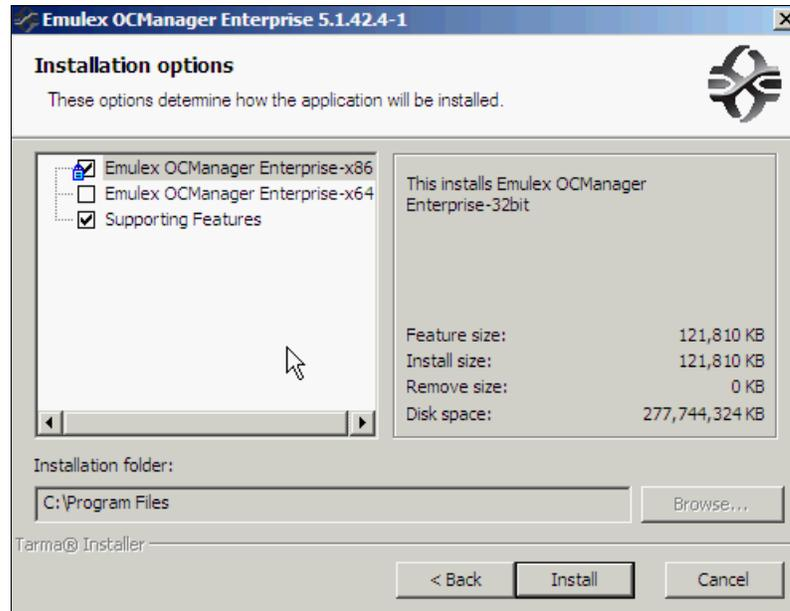

Figure 10-126 Installation options window
3. In the Installation options window (Figure 10-126), to **Install** to accept the default options.